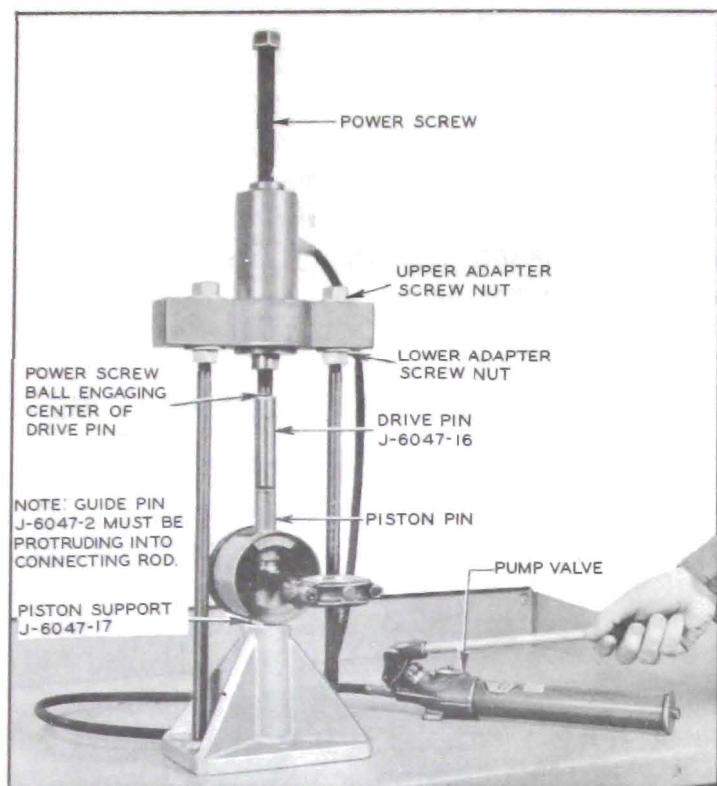

Figure 2-36—Installing Piston Pin
1. To assemble piston, pin, and rod, first place Piston Support J-6047-17, Return Spring J-6047-3, and Guide Pin J-6047-16 in base plate of press. Use the piston support with the full radial face upward. See figure 2-36.
3. Place small end of Drive Pin J-6047-4 in hold in upper (protruding) end of piston pin and position the assembly in the press. See figure 2-36.